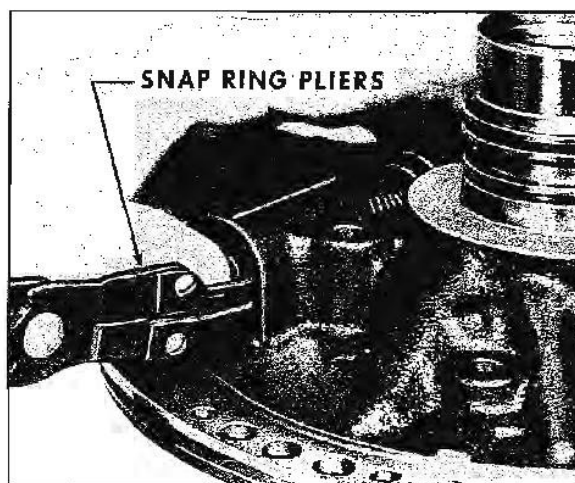

Fig. 7B-101 Removing Boost Valve Sleeve Snap Ring
8. Remove boost valve sleeve, valve, spring, washer and pressure regulator valve (Fig. 7B-102).